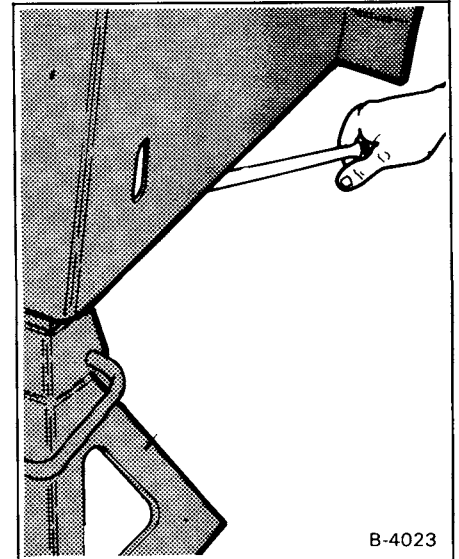

Fig. 74 Removing Drain Plug
1. Remove the drain plug (Fig. 74).